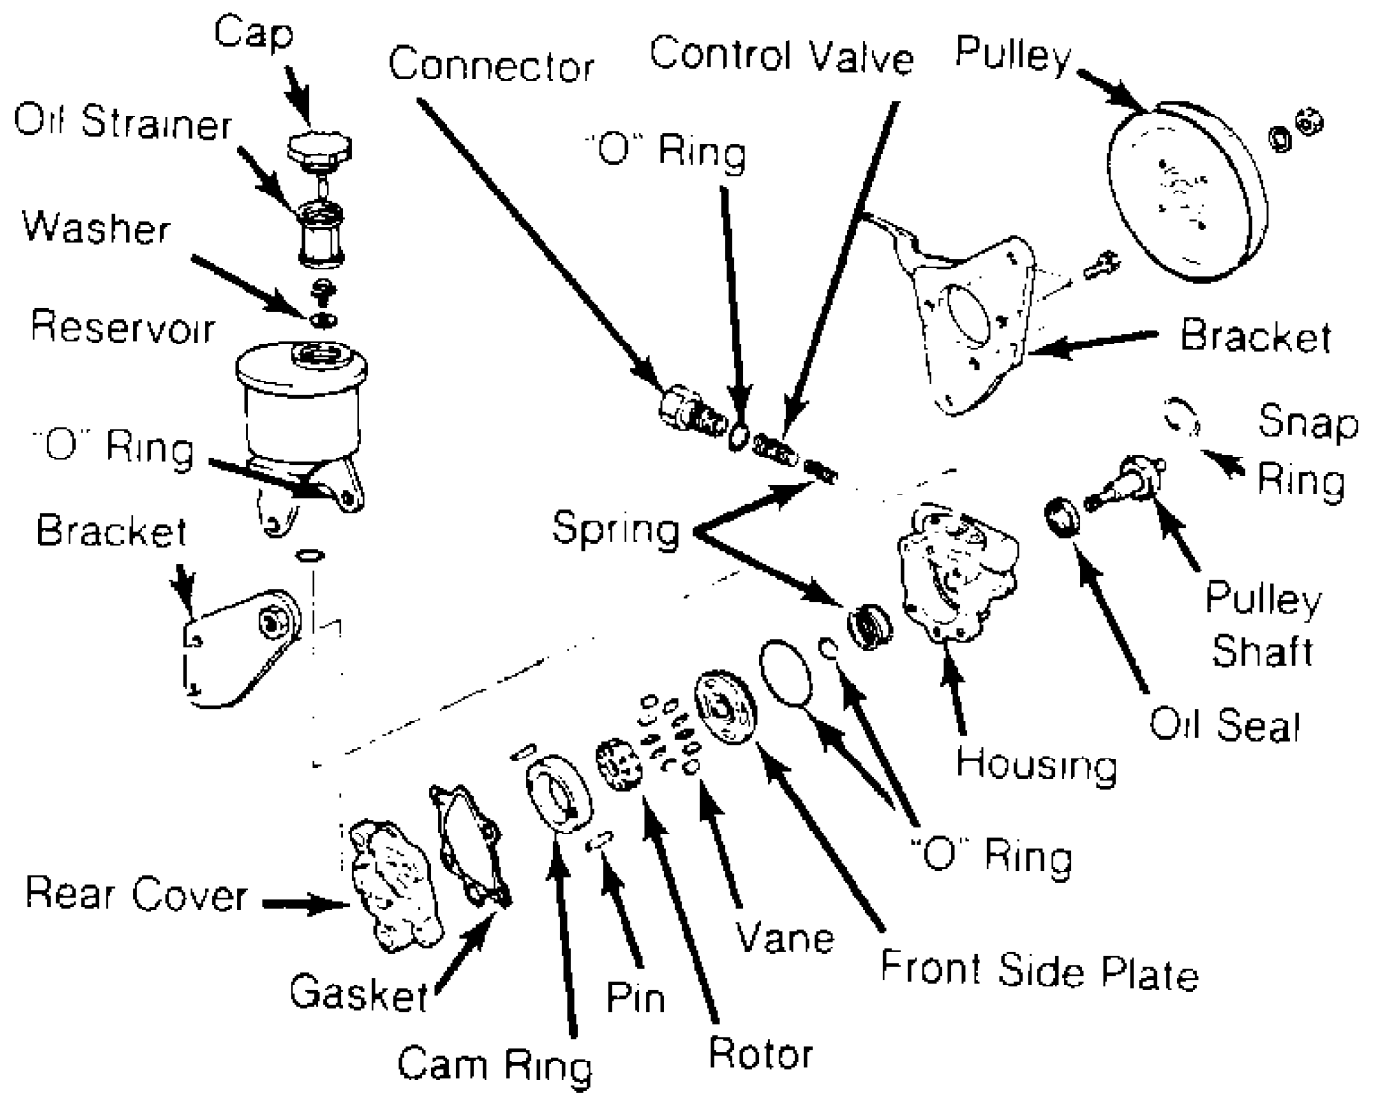

Fig. 6: Exploded View of Power Steering Pump (Pulsar NX & Sentra)
1) Ensure pump housing is cleaned before disassembly. Remove pulley nut and pulley. See Figs. 6 and 7. Scribe reference marks on housing, cam case (if equipped) and rear cover.
3) On Pulsar NX and Sentra, remove mounting bracket from front of pump. Remove pulley shaft bearing retaining snap ring. See Fig. 6. Remove shaft and bearing.